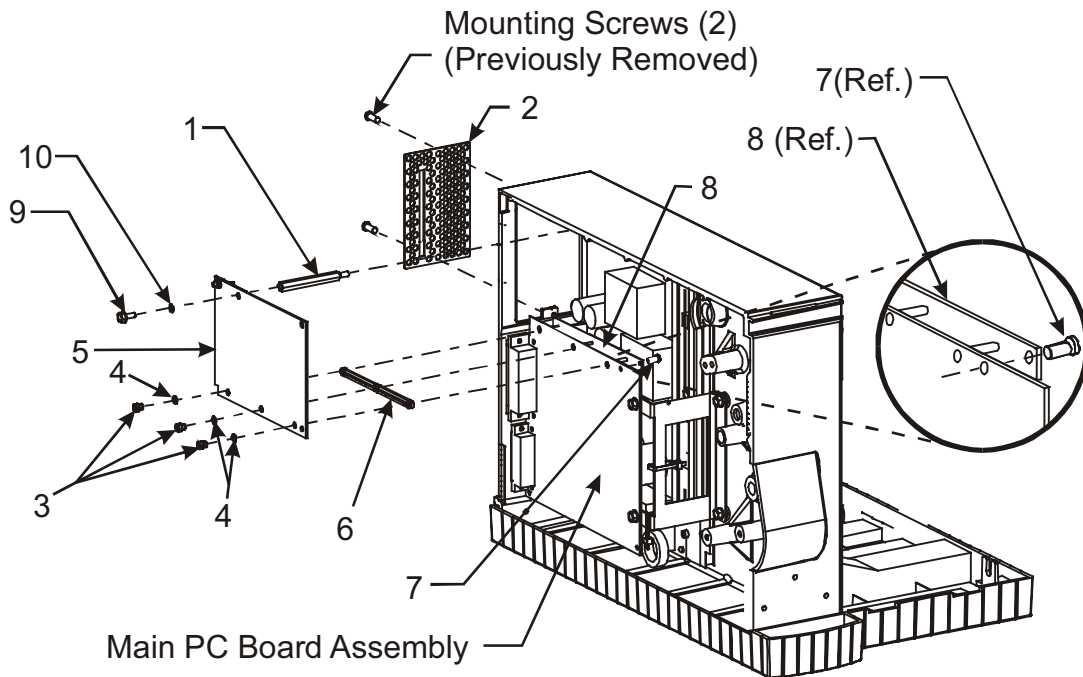
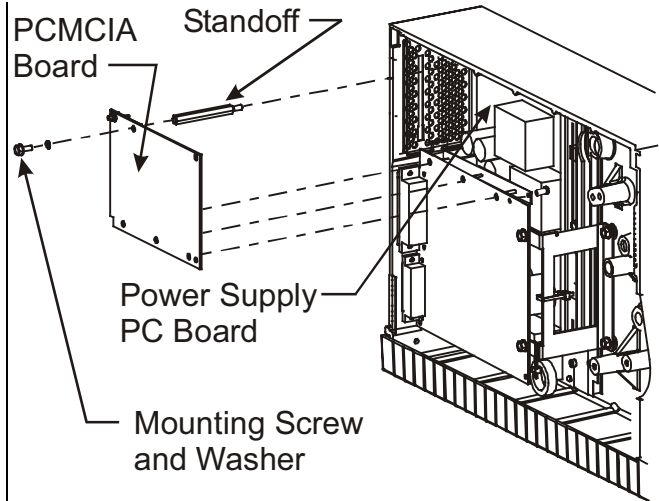

Figure 1. PCMCIA PCB Assembly Installation
Figure 4. Standoff Mounting Location
Parts List (See Figure 1)
4. Remove the top left side power supply PC board mounting screw and replace it with the standoff supplied with the kit (see Figure 4). This screw is no longer needed.
7. Once the alignment is achieved and the connector is fully seated, secure the PCMCIA board to the main PC board using the washers and thumbnuts supplied in the kit. Using the screw and washer shown in Figure 1 (items #9 and #10) to secure the PCMCIA board to the standoff (see Figure 4).